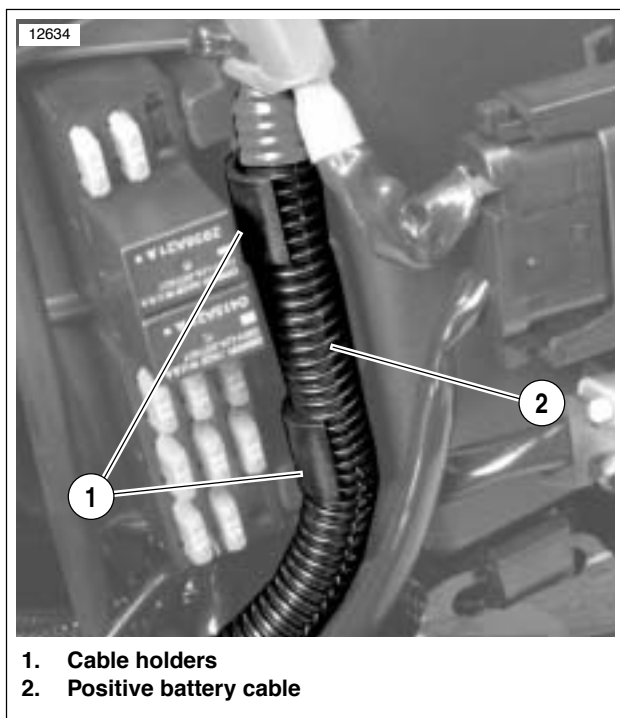

Figure 1-18. Positive (+) Battery Cable Holders
7. See Figure 1-18. Disengage positive (+) battery cable (2) from cable holders (1).